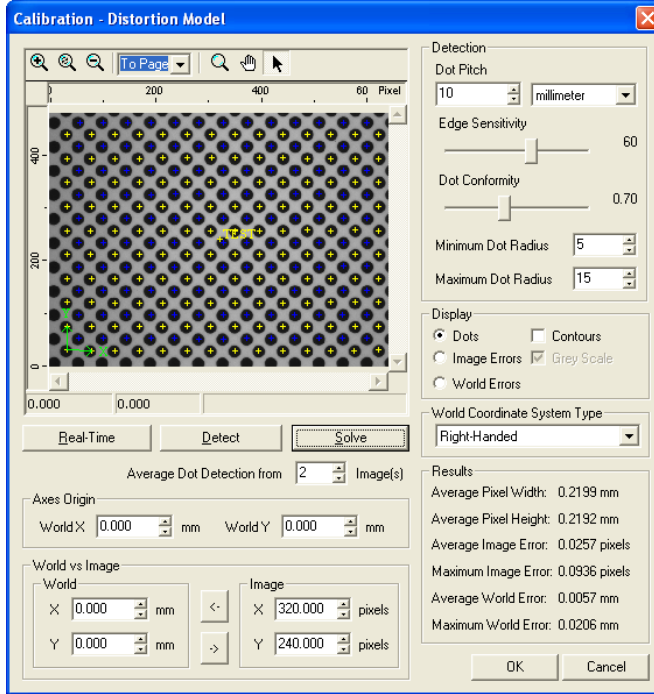

Figure 44 Distortion Model Calibration Dialog
5. Go to the **Calibration** sub-panel. Select **Distortion Model**. Click **Show Calibration Dialog**. The **Distortion Model** dialog is displayed (see Figure 44).